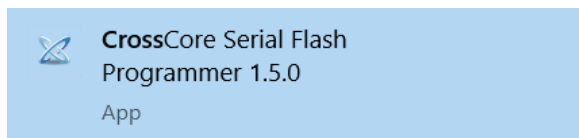

Figure 4. CrossCore Serial Flash Windows App
1. Open the **CrossCore Serial Flash Programmer 1.5.0** app (see Figure 4). If the programmer is not installed, download the installer from the CrossCore Utilities webpage.